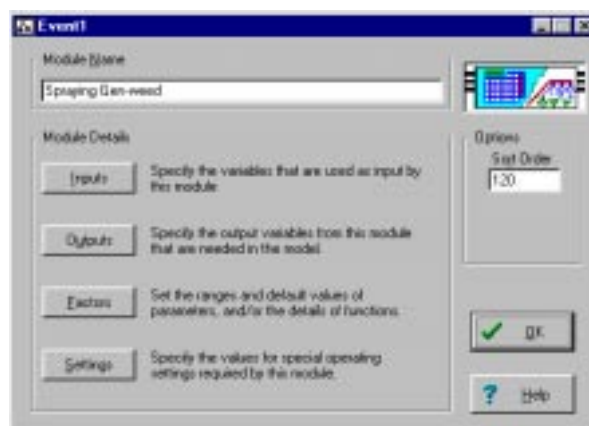

Figure 13.3 The 'Event' window
Two alterations are required so that the Lifecycle module reacts to the Event module. First, the Adult Plant Mortality function has to be altered so that it accepts mortality caused by the spraying event; and second, an 'Event' module (figure 13.3) has to be built so that it can supply the event parameter values to the Lifecycle module.
3. Open the '**Event**' module for editing (Figure 13.3);